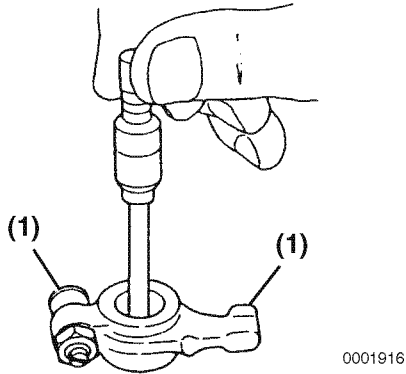

Figure 6-12
Use a telescoping gauge and micrometer to measure the inside diameter of all the rocker arm support brackets and the rocker arms (**Figure 6-12**). Record the measurements. See *Rocker Arm and Shaft* on page 6-7 for the service limit.
Inspect contact areas (**Figure 6-12, (1)**) for excessive wear or damage.